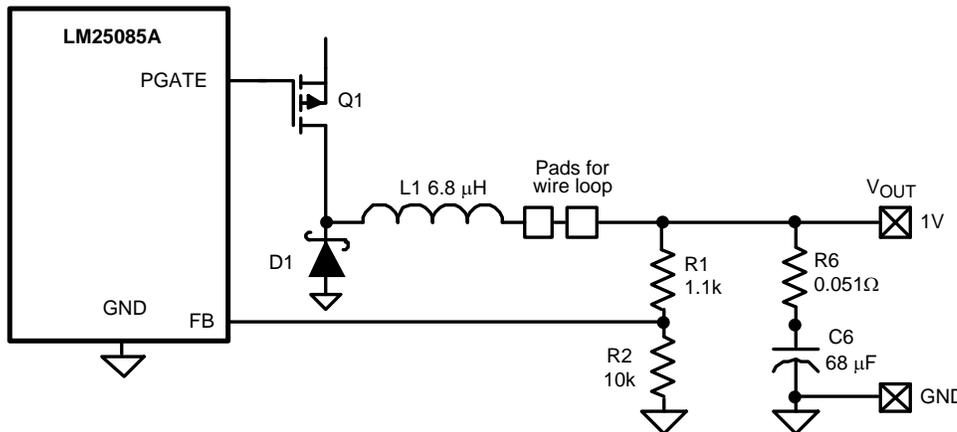

Figure 5. Lowest Cost Configuration
C) Lowest Cost Configuration: This configuration is the same as option B above, but with C5 removed. The ripple at the FB pin is attenuated from that at V_{OUT} by the feedback resistors (R1, R2). Since ≥ 25 mVp-p are required at the FB pin, R6 is chosen to generate ≥ 28 mV at V_{OUT} . Since the minimum ripple current in this circuit is 622 mA p-p the minimum value for R6 calculates to 45 m Ω . Using a standard value 51 m Ω resistor for R6, the ripple at V_{OUT} ranges from ≈ 32 mVp-p to ≈ 43 mVp-p over the input voltage range. See Figure 10. If the application can accept this ripple level, this is the most economical solution. The circuit is shown in Figure 5.